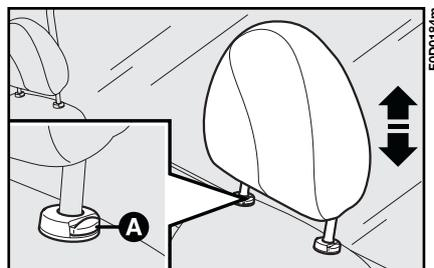

fig. 71a
– press button **A**-fig. 71a and move the head restraint up or down to the required position;
To lower it back to its original position: press the release button **A**-fig. 71a and lower the head restraint until refitting it into its seat on the backrest.
- 2) press button **A**-fig. 71a and then remove it.